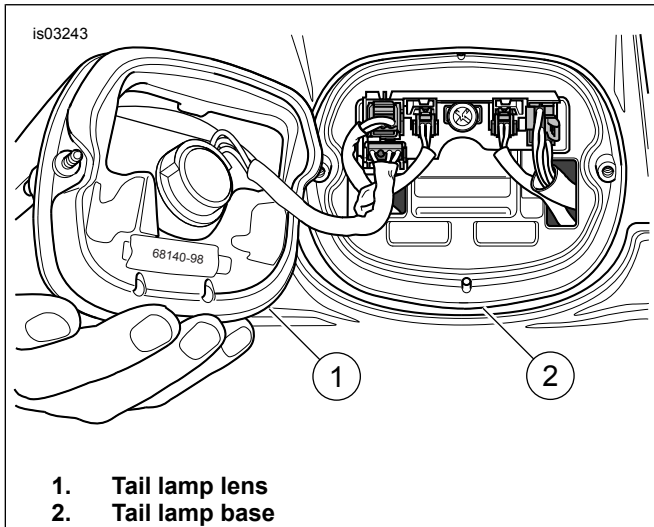

Figure 1. Remove Tail Lamp Lens
2. See Figure 1. Remove two screws and tail lamp lens (1) from base (2).
10. See Figure 1. Install tail lamp lens (1) on base (2) using two screws.